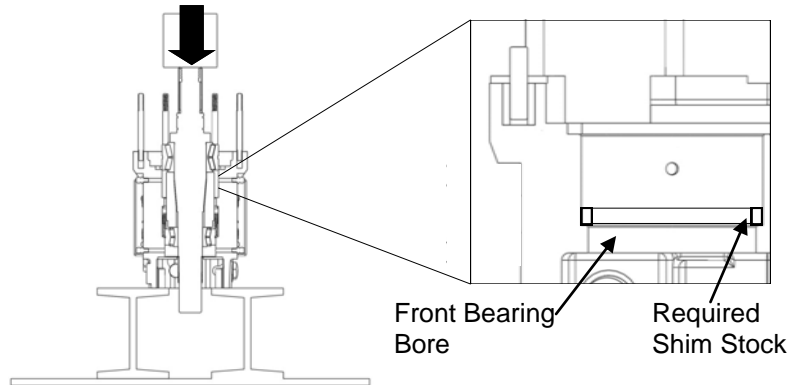

Figure 52: Pressing Shafts into Gear Case
4) Set the gear case on a press with the fluid end side facing up. Place the required thickness of shim stock so it sits on the shoulder of the front shaft bore of gear case. Apply lubricant to the outside of the bearings. Place shaft assembly (one shaft at a time) in the gear case with the spline end facing up. Making sure that the drive and the short shafts are in the correct bores, press the shafts into gear case until bearings are fully seated (Figure 52). See Table 4 on page 22 for the required force.